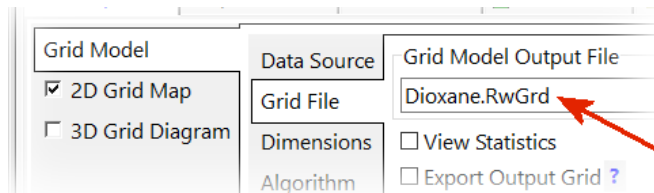

Figure 32
- Set the name for the *Grid Model* to “Dioxane.RwGrd” (Figure 32). This file will contain the “behind-the-scenes” regularly-spaced array of numbers (cells) that will approximate the values upon which the contours will be based. It is not a diagram.